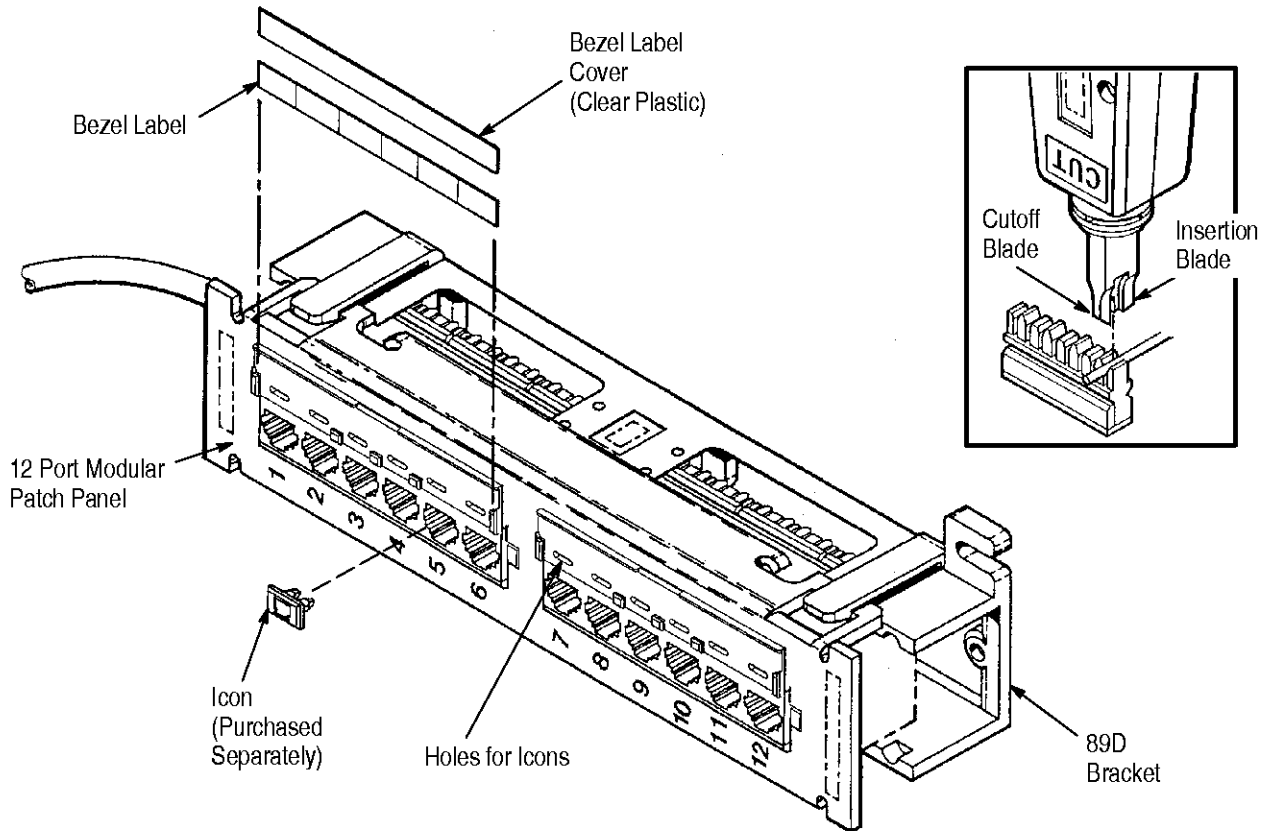

Figure 1
Each panel includes an 89D bracket, universal T568A/T568B wiring labels, bezel labels, bezel label covers, and cable management cable ties. See Figures 1 and 2.
- Removed optional front label kit information and illustration from Figure 1
- Changed illustration of bezel label and added bezel label cover in Figure 1
- Changed illustration of housing in Figure 1